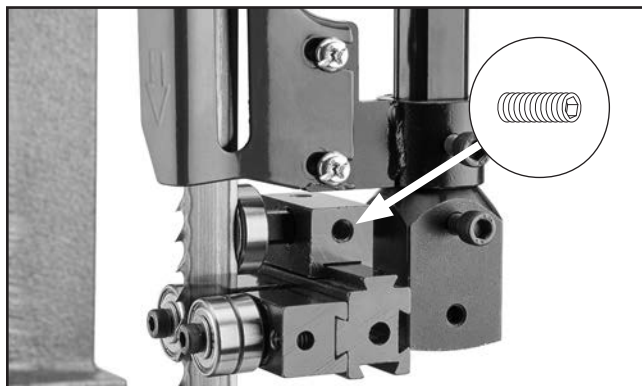

Figure 10. Bearing set against blade spine.
13. Loosen set screw shown in **Figure 10**.
14. Adjust support bearing shaft forward or back until bearing is 0.016" away from blade spine (see **Figure 10**).